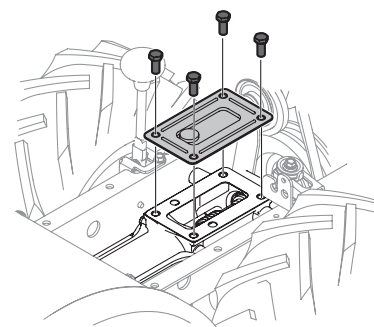

Figure 22
- Remove the four hex screws (5/16-18 x .75) securing the transmission cover to the drive shaft and remove the cover. Locate the main drive shaft below the cover. See Figure 22.